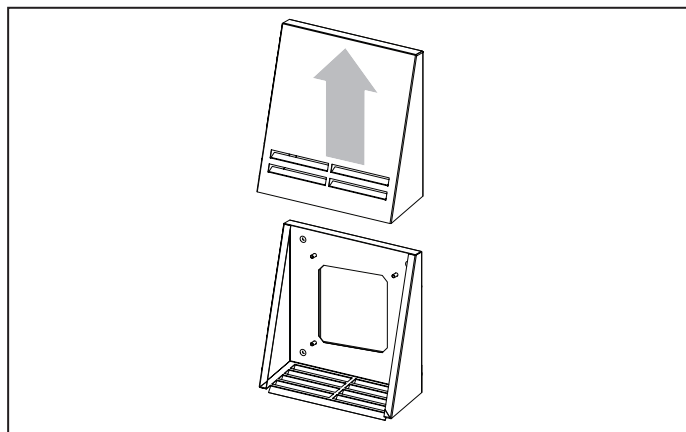

Fig. 16a.
- Fig. 16a. For the models VENTO V50-1. Remove the front part of the outer ventilation hood.